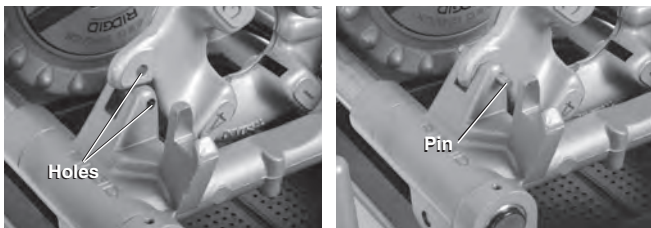

Figure 24 – Retaining LH Die Head in Place
1. Place a $\frac{5}{16}$ " pin, 2" long through the holes in the carriage rest and left hand die head to retain in place (see Figure 24).